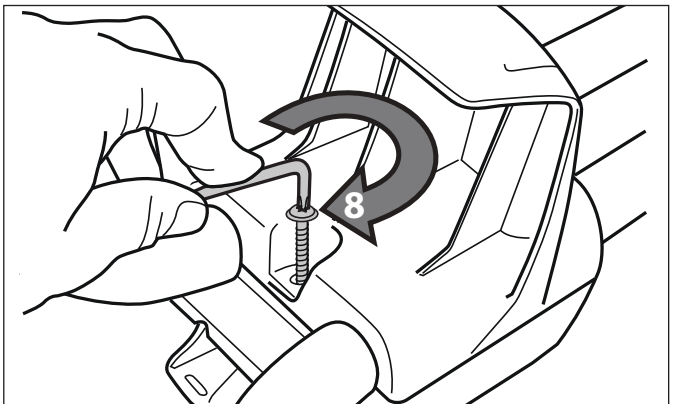

Figure 7. Install the Power Cable Hook and Control Unit Hook
5. Secure the power cable hook and control unit hook around the tubes using a screw and hand tighten with the Torx wrench (supplied with unit). Refer to Figure 7.